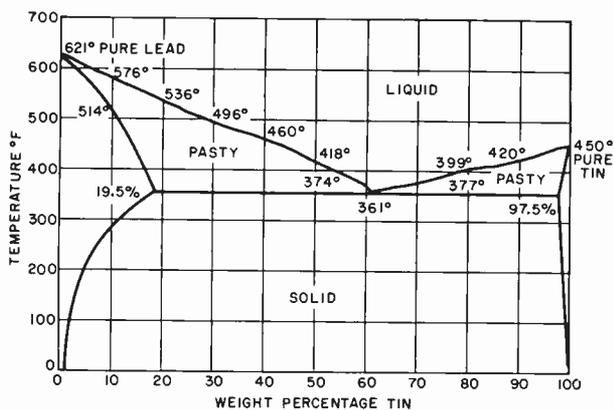

Fig. 1. Tin-lead diagram showing the melting and flowing points of several compositions of tin and lead solders.
**Solder Alloys.** Although there are hundreds of solder alloys made from many different metals, the most common solders consist of a mixture of tin and lead. Fig. 1 indicates the melting point (solidus) and flowing point (liquidus) of several compositions of tin and lead.